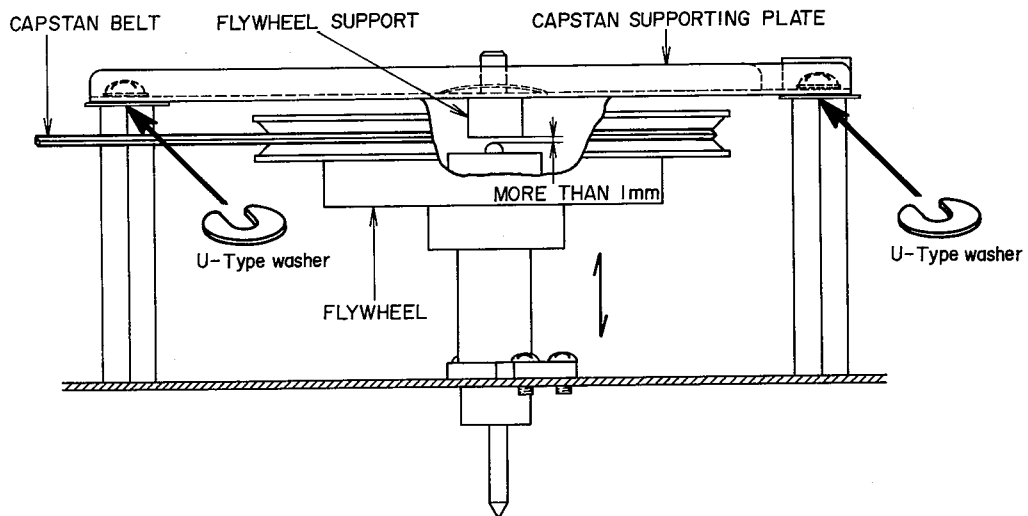

Fig. 14
11. FLYWHEEL VERTICAL LOOSE PLAY ADJUSTMENT (Refer to Fig. 14)
Adjust by inserting U type washers between the supporting plate and support to obtain about a 1.0 mm gap between the flywheel and capstan supporting plate as shown in Fig. 14.